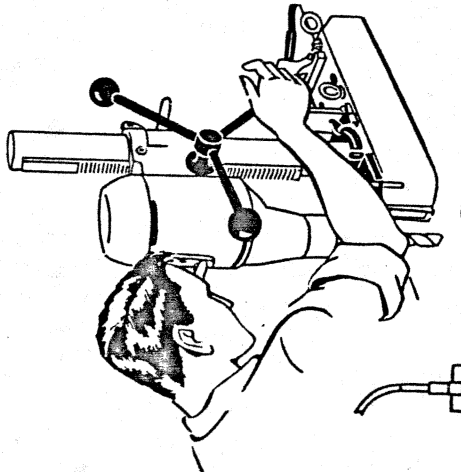
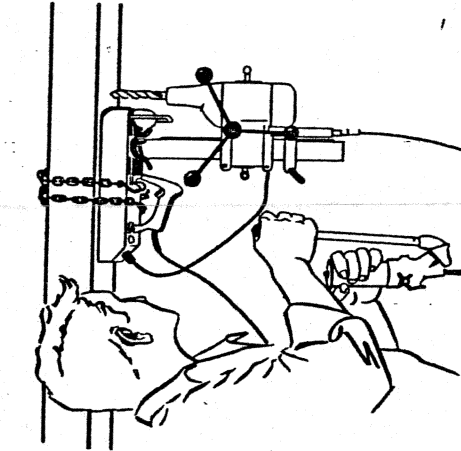
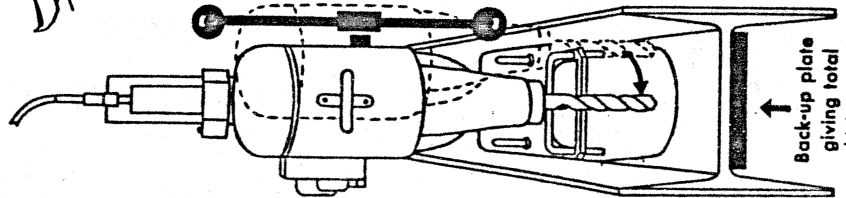

Fig. 13
Fig. 14
Fig. 12
8. The narrow width of the base allows working in I beams. The drill column can be swung 17° counterclockwise, and wing nut securely tightened, for drilling close to the I beam flange, or in close to a wall Fig. 12. Note: Drill point locator cannot be used in this position. The drill bit pressure may be applied manually by use of the spider arm Fig. 13, or automatically by using the "Hydra-Power" Feed Fig. 14. By using the "Hydra-Power" Feed, an ideal drill point pressure is obtained.